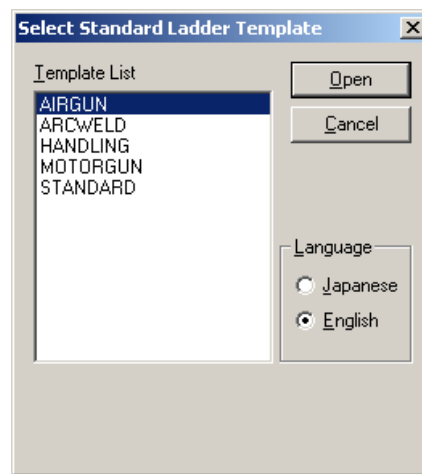

Fig. 7-1 [Select standard ladder template] Dialog Box
1. Selecting [File] – [New] displays the dialog box shown in Fig. 7-1.